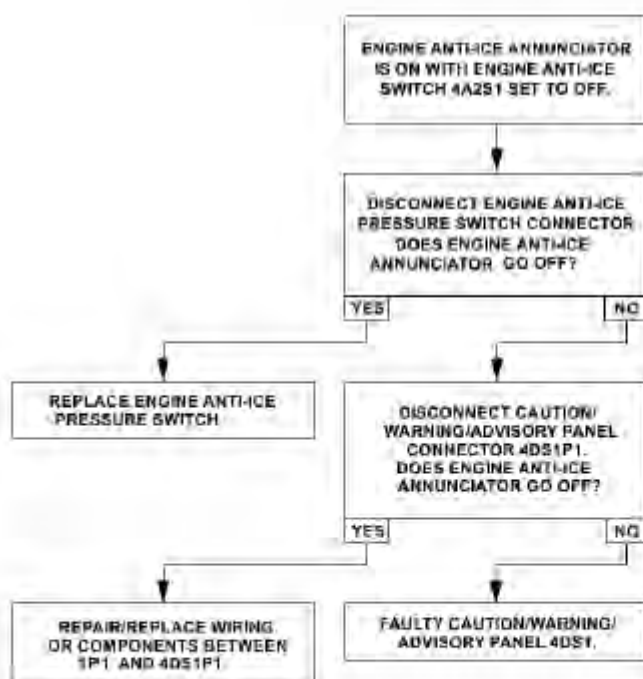

Figure 96-54: ENGINE ANTI-ICE Annunciator Circuit - Trouble No. 1
- If the ENGINE ANTI-ICE annunciator is on (ground is supplied to the annunciator), refer to Trouble No. 1 (Figure 96-54).
- If the ENGINE ANTI-ICE annunciator does not go off, refer to Trouble No. 1 (Figure 96-54).